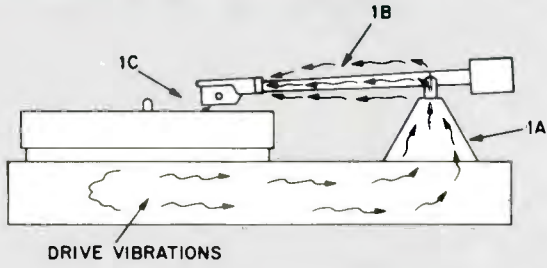

Fig. 1—Vibrations from the drive system can easily travel through the tonearm base (A), through the tonearm tube (B), to the pickup (C).
The last article discussed the effects that the turntable's mechanical drive system has on the tonearm. As we see in Fig. 1, vibrations travel from the drive mechanism through the turntable chassis to the base of the tonearm, then from the tonearm base (A) through the tonearm (B) and finally reaching the phono pickup (C). We already know that these same turntable drive vibrations can also reach the phono pickup via the turntable platter. However, we will concern ourselves only with those turntable drive vibrations that are picked up by the tonearm base and how they interact with the pickup.